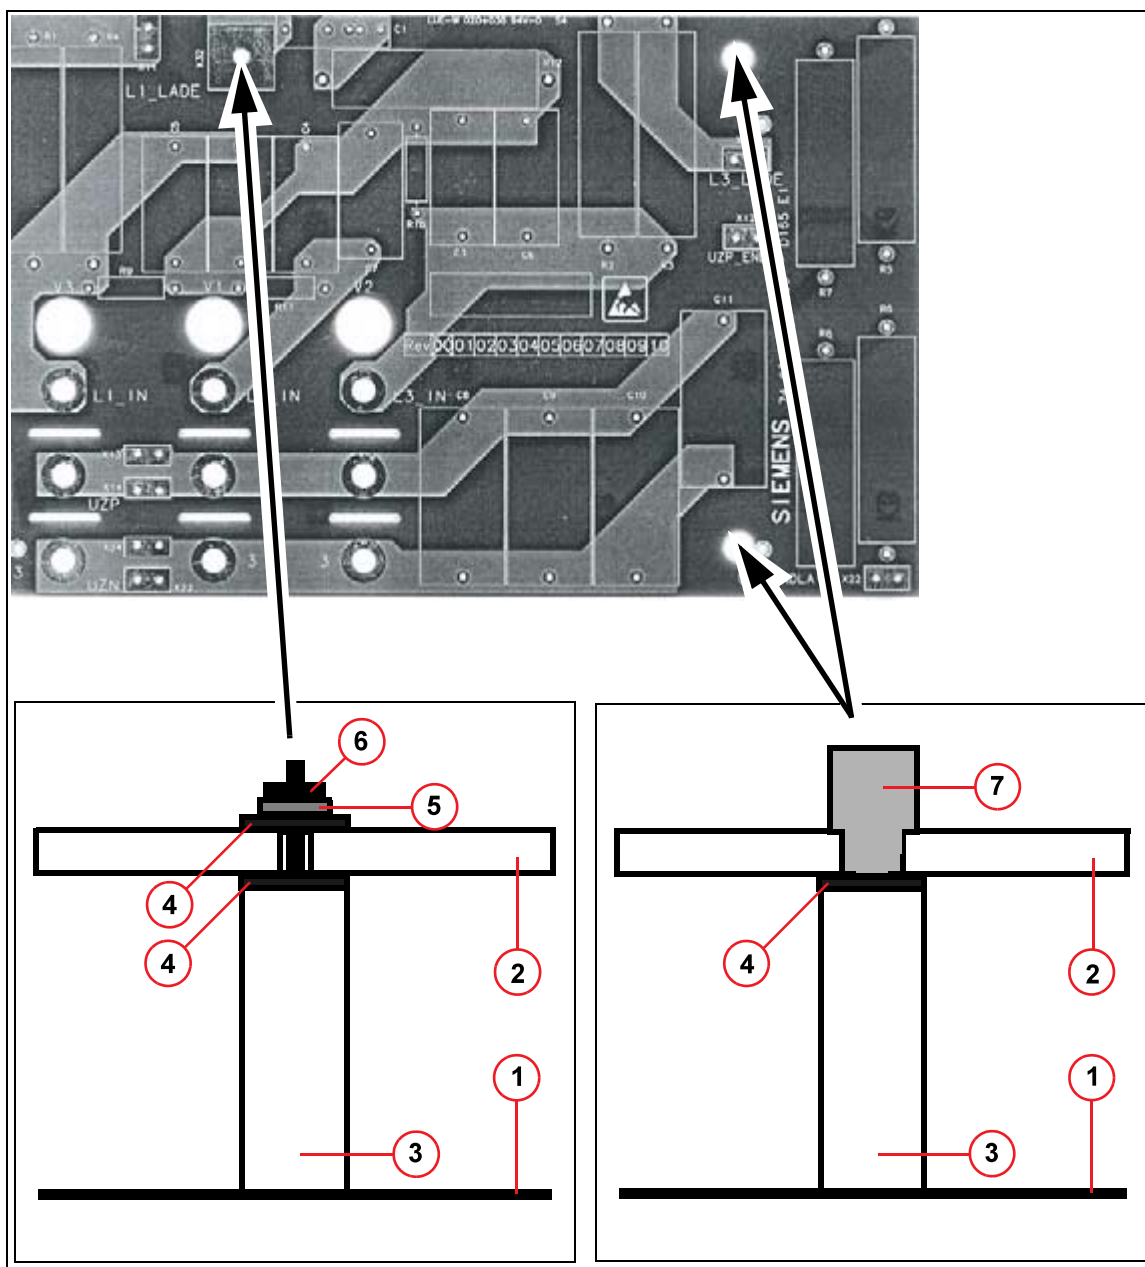

Fig. 10: D165, Part No.: 74 63 362
- Place the washer (4/Fig. 10 / p. 30) and the serrated contact washer (5/Fig. 10 / p. 30) on the X32 threaded stud connection and secure them with the M3 hex nut (6/Fig. 10 / p. 30).
- Secure the two other threaded studs with the plastic knurled nuts (7/Fig. 10 / p. 30).